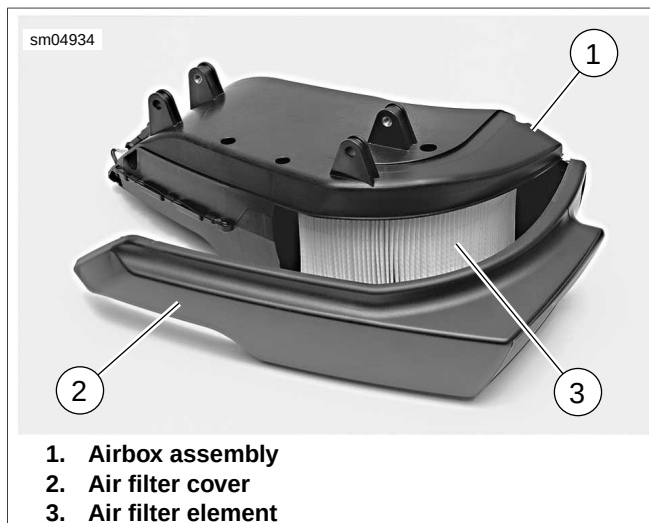
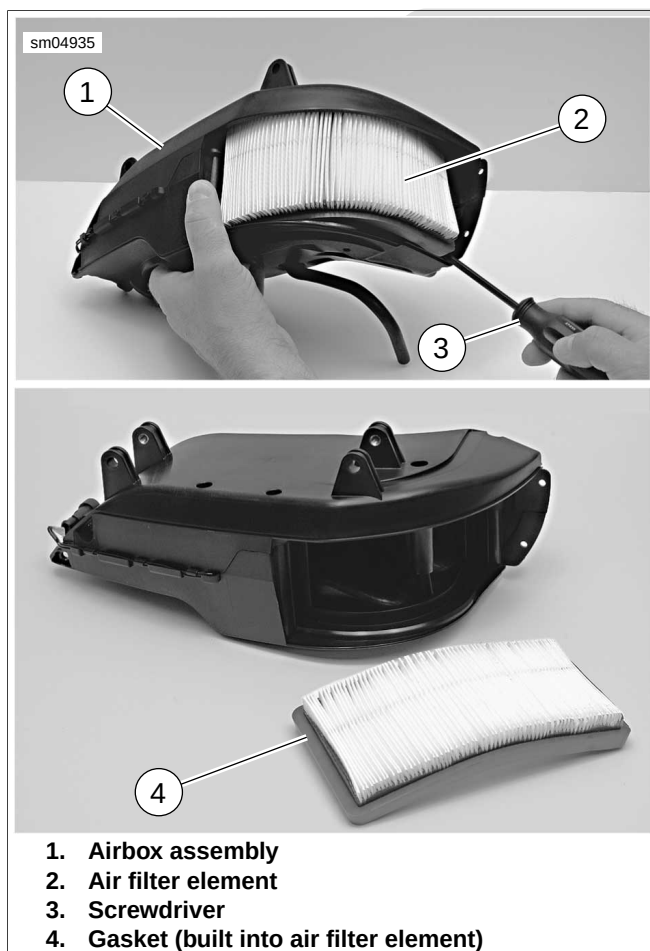

Figure 1-101. Removing Air Filter Cover
Figure 1-102. Removing Air Filter Element
5. See Figure 1-101. Gently pull rear end of air filter cover away from airbox assembly. Disengage front of air filter cover from airbox assembly and set cover aside.
6. See Figure 1-102. Using a flat blade screwdriver or other suitable tool, gently pry lower front corner of air filter element out of airbox. Work screwdriver around bottom of filter element gasket (4) until entire bottom end of filter element is free.
1. See Figure 1-101. Thoroughly clean inside of airbox housing (1) and cover (2).
2. If air filter element (3) is damaged or if filter media cannot be adequately cleaned, replace filter element.
3. See Figure 1-102. Examine air filter seal (4). If cracked, torn or otherwise damaged, replace filter element.
3. See Figure 1-101. Position front of air filter cover (2) onto airbox. Do not secure with button head clips at this time.